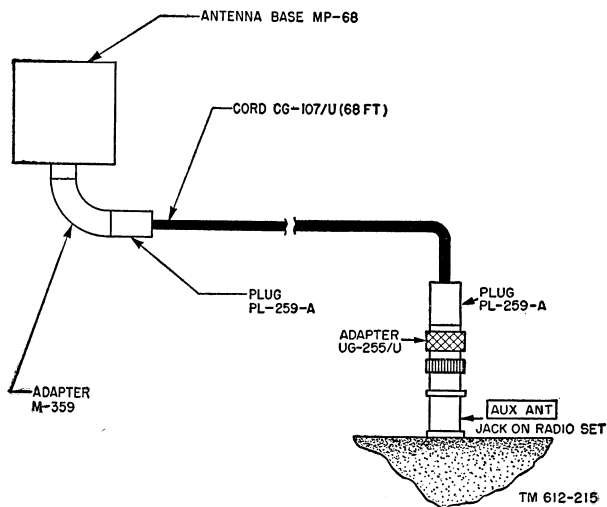

Figure 21. Connection of antenna equipment RC-292.
c. Connect the other end of the adapter to the AUX ANT connector of the radio set (fig. 21).